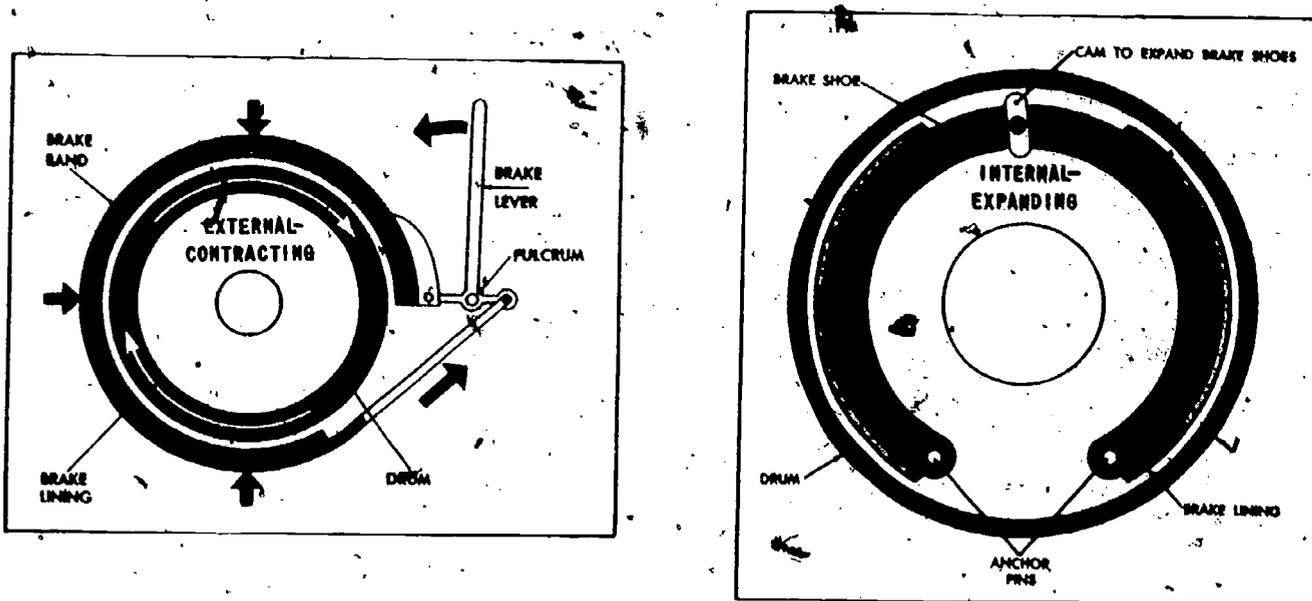

Fig 3-10. Mechanical method of controlling brakes.
1. **Mechanical.** Mechanical control methods use a system of levers, linkage, and cams to actuate the brakes (fig 3-10). Movement of the lever is transmitted to the cam through the linkage. The cams rotate and cause pressure to be exerted on the brake lining which contacts the brakedrum and creates sufficient friction to slow or stop the moving part or component. Some brakes use spring pressure to actuate the brakes and the cams to release them. Some of the mechanical systems will toggle in, allowing the operator to leave the machine with the brake applied. The mechanical method of brake control is used on many of the operating brakes of engineer equipment.